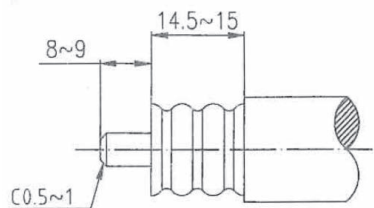

Fig2
1. After straightening 500mm of end of the cable, remove the outer jacket to length of 23.5mm. **See fig. 2.**
2. Using a sharp knife, remove outer conductor, dielectric to a total of 20mm of outer conductor is left exposed. **See fig. 2**
3. Using your small flat file, slightly chamfer the end of the inner conductor (approx 45 degree) all around edge. **See fig. 2**